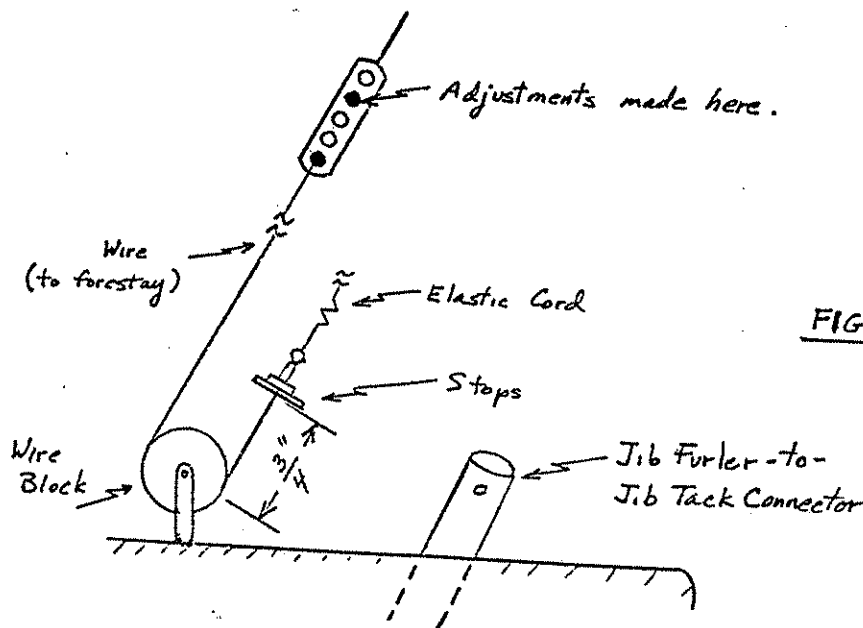

FIGURE 1
- The jib furler-to-jib tack connector must be free to rotate without binding. (See Figure 1)
- If your Mobjack is equipped with an elastic cord to tension the forestay, the jib halyard must be sufficiently tensioned so the forestay wire does not bounce against the stops. (See Figure 1).